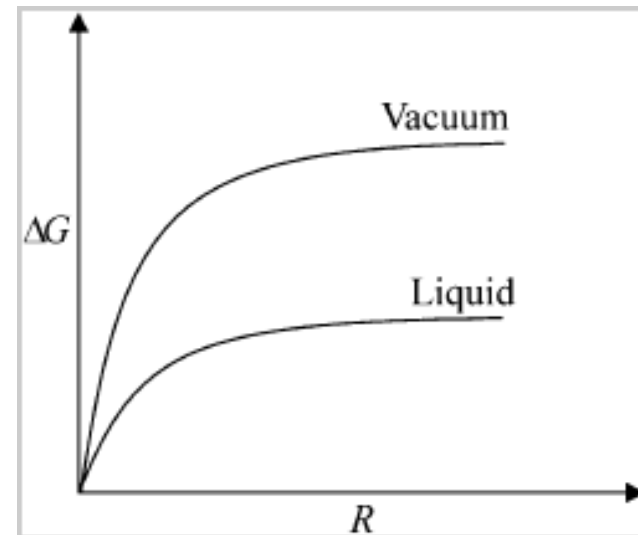

Fig. 4.6 Change in surface free energy with separation R between two pieces of the cylinder shown in Fig. 4.4, placed in vacuum or liquid
- The force of attraction would increase in vacuum as shown in Fig. 4.6